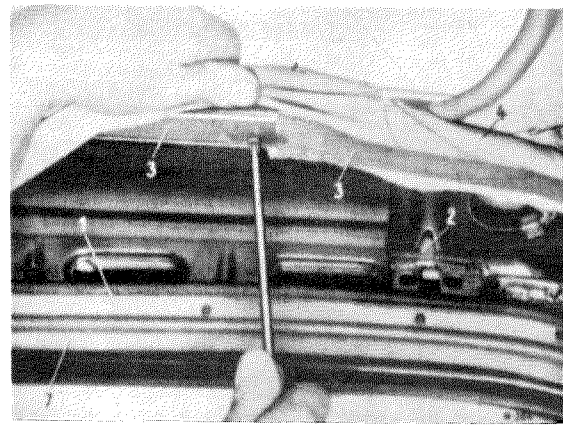

Fig. 69 — 2/4
11. On installation, start by attaching the left and right cover rails (3) and attaching the rear bow. Then install the left and right cardboard strips (6), making sure that the bent hooks (2) are tapped down again (see Fig. 69 — 2/4). Then re-cement all cemented parts and use a filler knife to force the headlining under the fixing rail (1) along